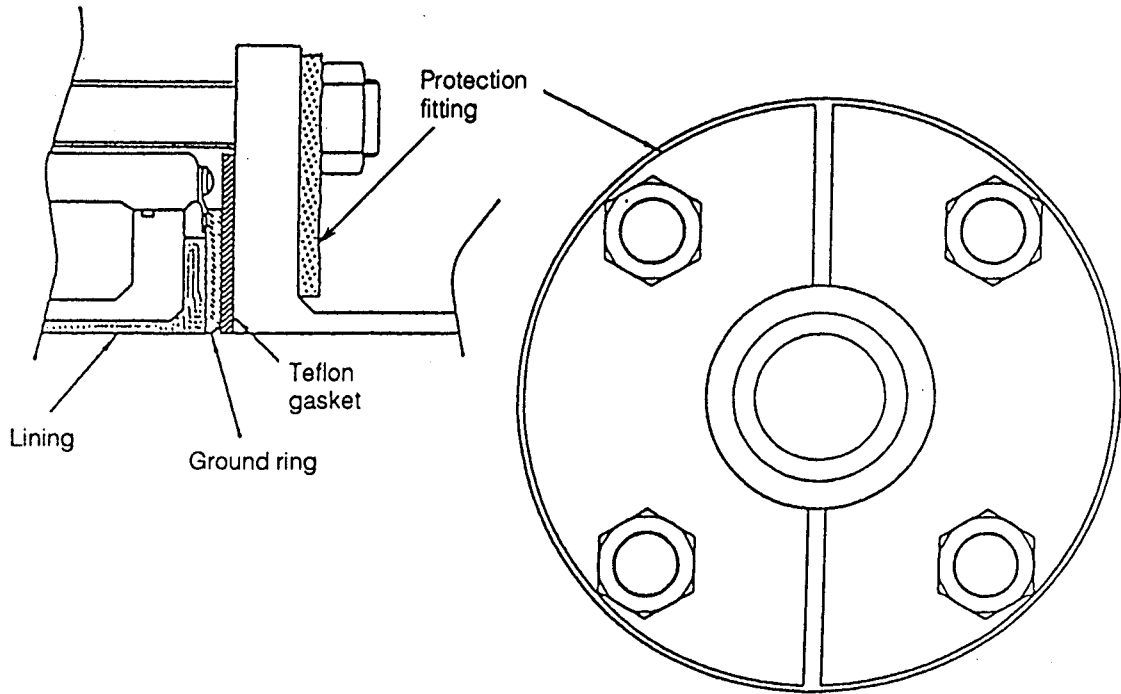

Figure 5-16. Installation onto PVC Piping using Protection Fitting
- (1) When the PVC pipings may be distorted or damaged, put a metal protection fitting as shown in Figure 5-16 on the face of the PVC flange before fastening.